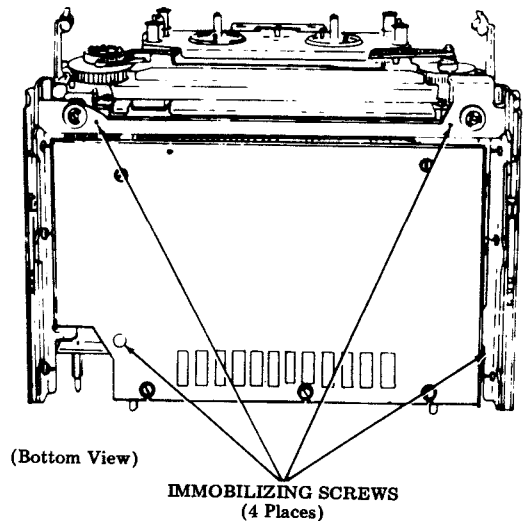

Fig. 72
Step 1 — Loosen four immobilizing screws a minimum of four turns until base rides freely on the shock mounts (Fig. 72).